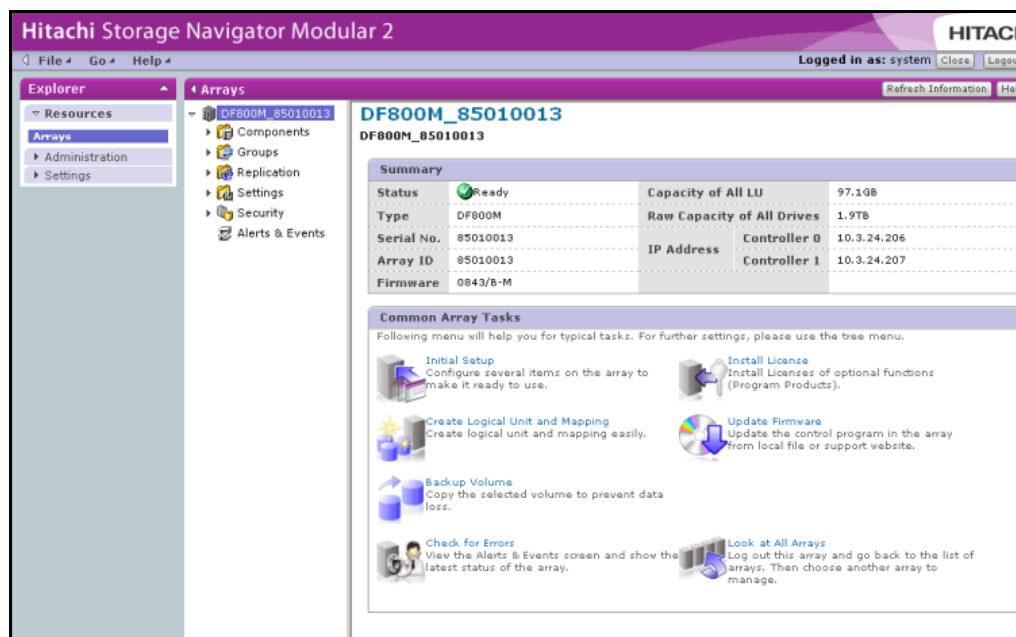

Figure 4-3: Example of an Array Properties Window
5. Click **Show & Configure Array**. An Array Properties window similar to the one in Figure 4-3 appears for the selected array.